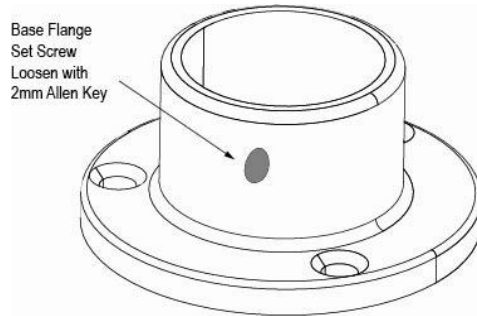

Figure 7: Loosen and Remove Base Flange from Glass End Posts
- Using a 2mm Allen Key, loosen the set screw and remove the base flange from each of the Glass End Posts. See **Figure 7** below.